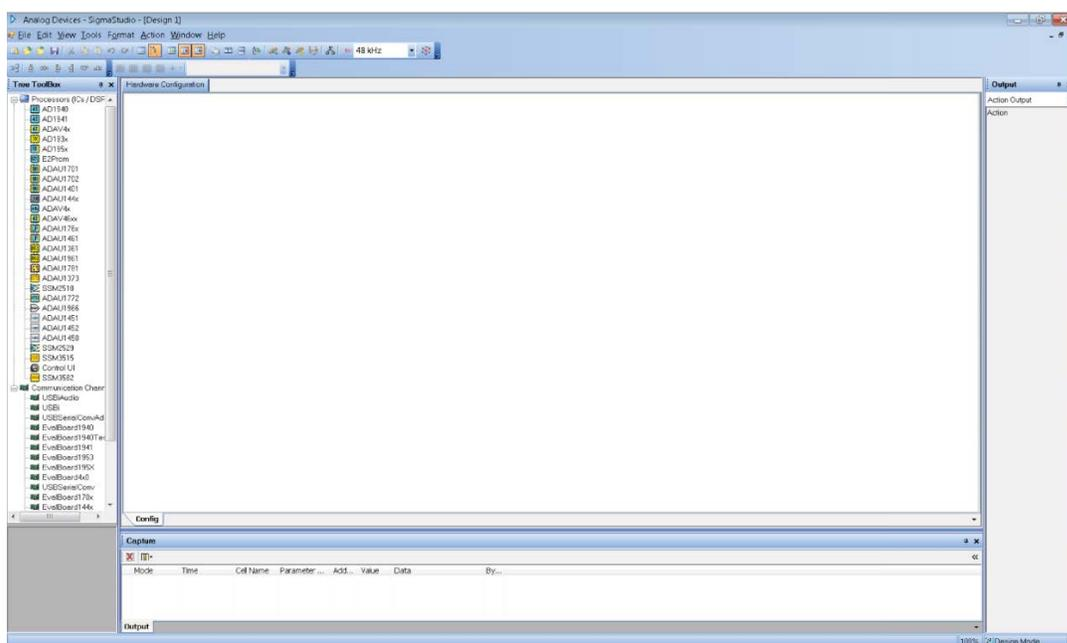

Figure 3. SigmaStudio GUI Start Window
6. Double click **SStudio.exe**. If the window shown in Figure 3 appears, the SigmaStudio software has been installed. Proceed to evaluation board startup.
11. In the SigmaStudio window, under the **File** menu, click **New Project** (see Figure 3).